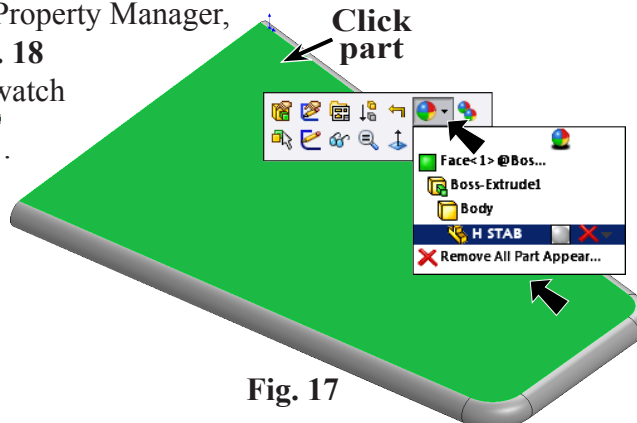

Fig. 17
- Step 2. Click the part, expand **Appearance Callout**  on the Context toolbar and click **H STAB** , Fig. 17.